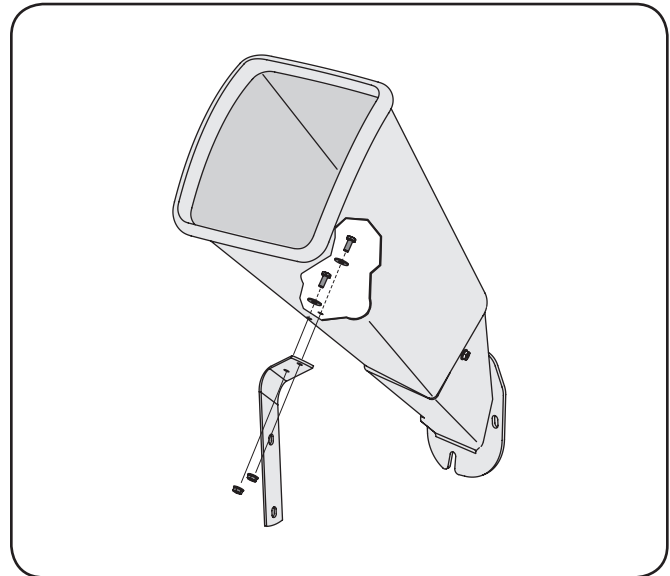

Figure 3-2
1. Loosen, but do not remove, the two hex bolts, flat washers, and flange nuts which are secured to the support bracket. See Figure 3-2.